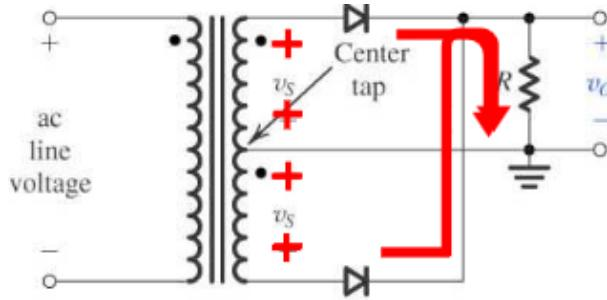

Figure 6: Setup for part 2 of task 2. This diagram was taken from the lecture slides.
**Part 2.** The procedure and setup was exactly the same as for part 1 of this task, see figure 6 for the setup.